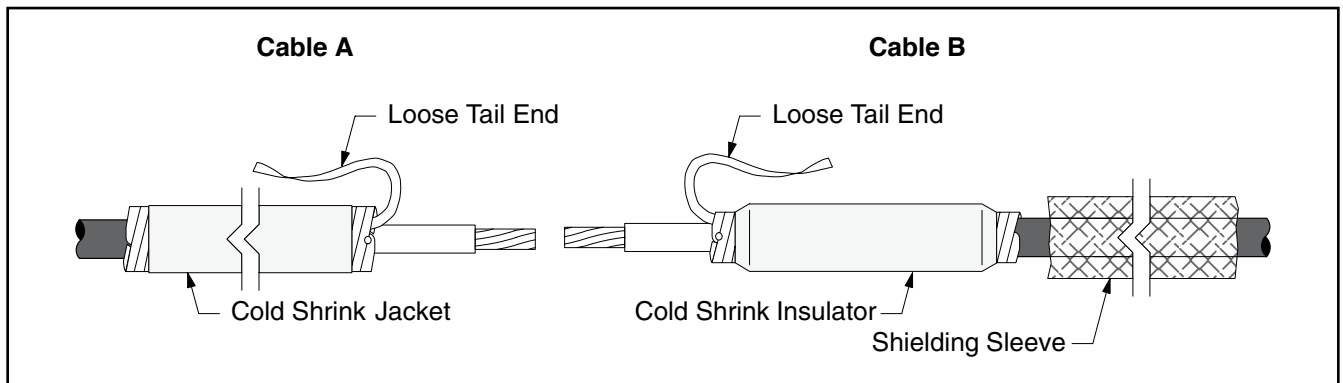

Figure 6
- a. Slide cold shrink Jacket (longer, non-tapered tube) onto one cable (*Figure 6*).
- b. Expand diameter of shielding braid sleeve by pushing in at ends (to shorten length) and slide onto other cable (*Figure 6*).
- c. Slide cold shrink insulator (tapered ends) onto cable (behind shielding braid sleeve if used) (*Figure 6*).